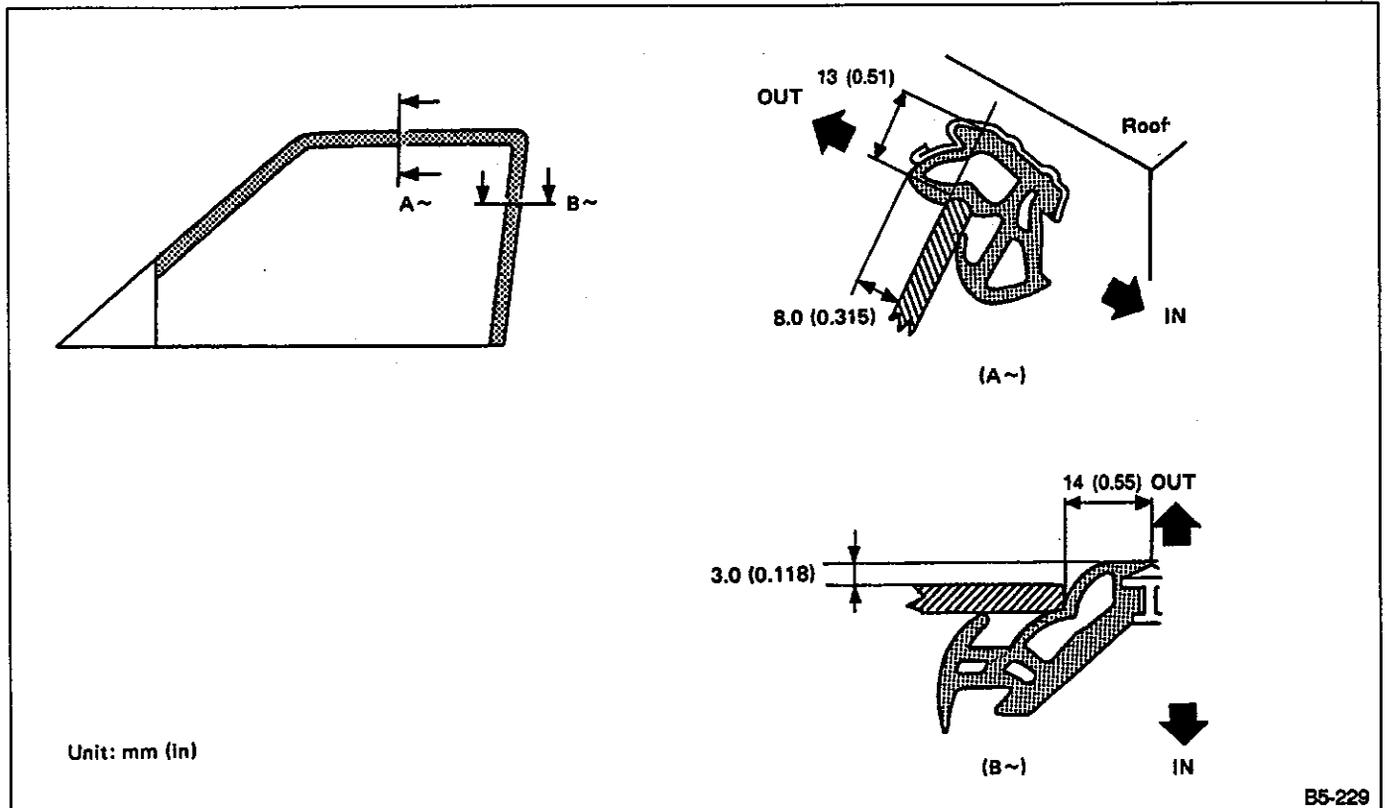

Fig. 75
- After clearance adjustment, make sure that bolts are tightened (shown in figure 75).